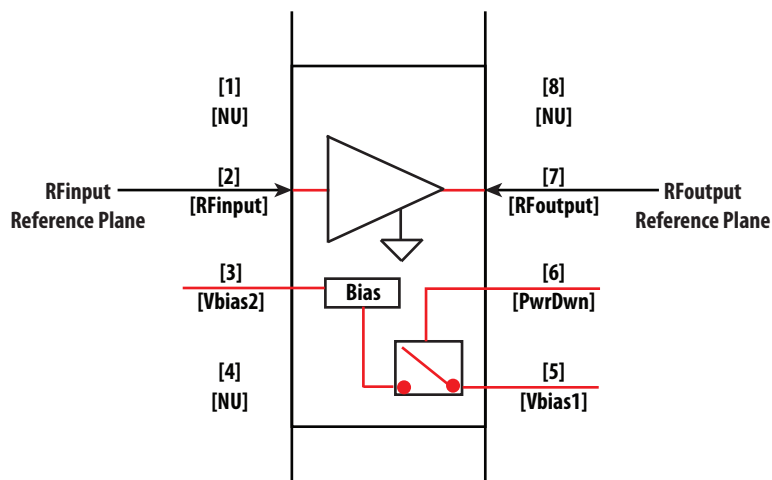

Figure 25. RFinput and RFoutput Reference Plane
- Scattering and noise parameters are measured on coplanar waveguide made on 0.010 inch thick ROGER 4350. The input reference plane is at the end of the RFin_{input} pin and the output reference plane is at the end of the RFin_{output} pin as shown in Figure 25.